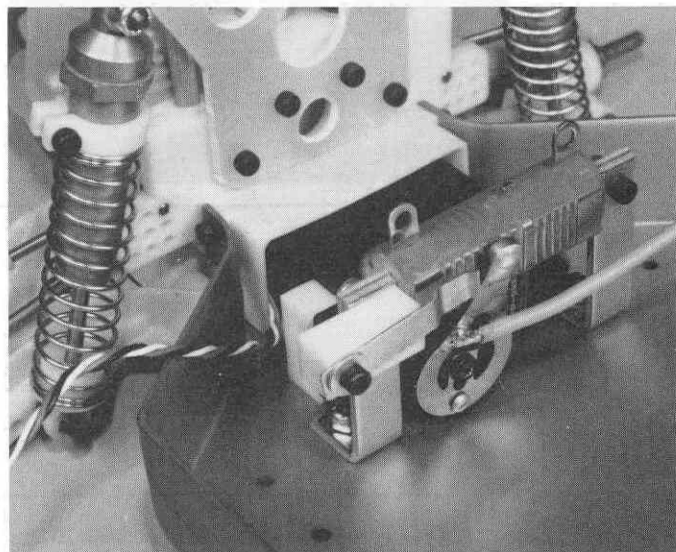

Fig. 161
□ **Fig. 161** Follow steps 152 and 153 to install the throttle resistor, but make the following exceptions: the resistor brackets should be turned 180 degrees, so that they look like Fig. 161. Mount the resistor BEHIND the brackets instead of in front; and use the thin bypass mount (with the rounded edges). When assembled check for proper wiper pressure as in step 155 and complete with wiring in step 154.